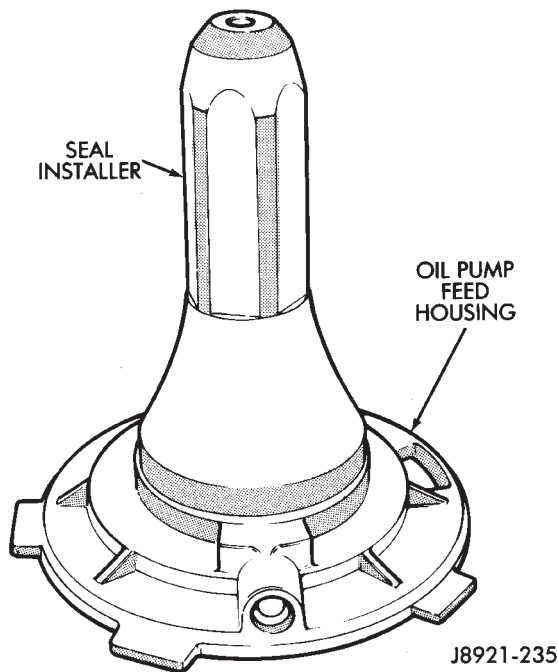

Fig. 77 Installing Oil Pump seal
(57) Install new seal in oil pump feed housing (Fig. 77).